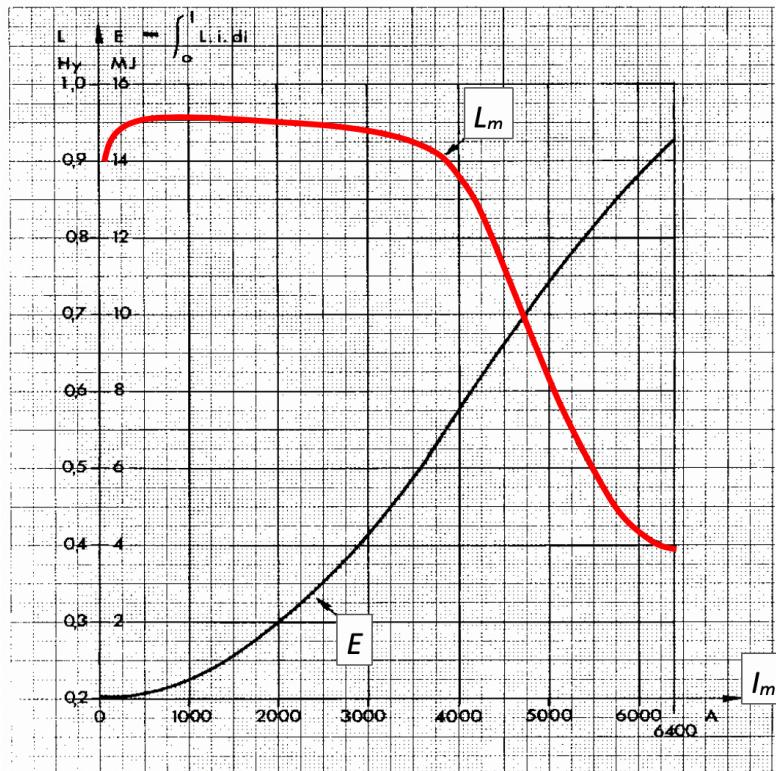

Figure 7 - Magnet Saturation in the CERN Proton Synchrotron Main Magnets
Warm magnets typically saturate as the field approaches 1 tesla (10k gauss). As an example, Figure 7 shows a measurement of the differential inductance in Henrys (L_m) and magnetic energy in MJ (E) for the CERN proton synchrotron (CPS) main magnets, as a function of magnet current in amps (I_m).